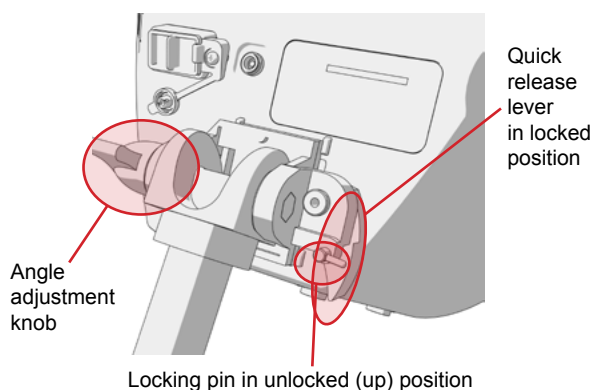

Figure 16: Attach the monitor to the quick-release mount
5. Press the quick-release lever down to lock the monitor into place (**Figure 16**).
3. Turn the knob clockwise to secure the monitor at the desired angle (**Figure 16**).